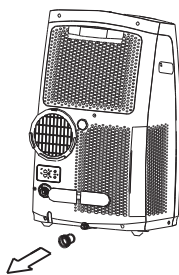

Fig.22
- When the water level of the bottom tray reaches a predetermined level, the unit beeps 8 times, the digital display area shows "P1" . At this time the air conditioning/dehumidification process will immediately stop. However, the fan motor will continue to operate (this is normal). Carefully move the unit to a drain location, remove the bottom drain plug and let the water drain away (Fig.22). Reinstall the bottom drain plug and restart the machine until the "P1" symbol disappears. If the error repeats, call for service.
- Remove the plug from the bottom drain outlet, all the water in the bottom tray would drain out (See Fig.22).